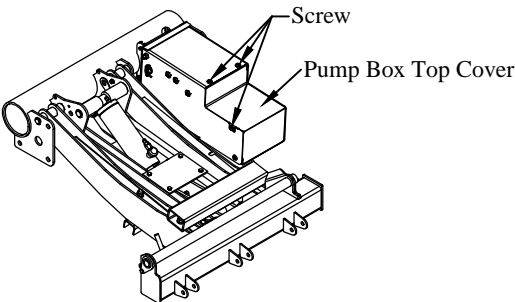

Figure 2: Pump box cover screws.
- 3. **Remove** the pump box top cover by removing the three (3) screws, and verify that the vent plug is installed (Figure 2).